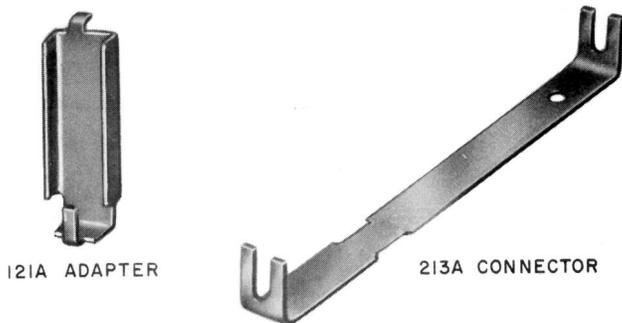

Fig. 103—121A Adapter and 213A Connector
14.02 The 98A (MD) protector (Fig. 44) can be converted to fuseless operation by adding two 121A adapters and two 213A connectors (Fig. 103) as follows: